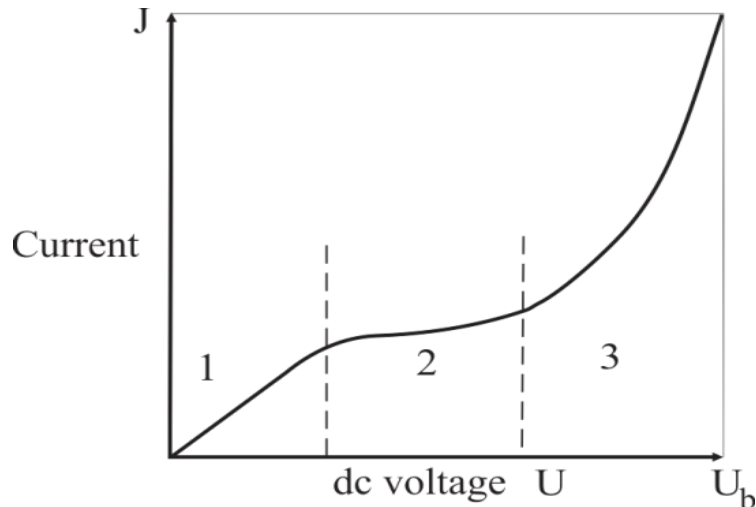

Fig. 8 Typical voltage-current ( $U$ - $J$ ) characteristic in dielectric liquids.
- Fig. 8 shows at low voltages, the current varies proportionally to the voltage (region-1), representing the ohmic behaviour of the material. On raising the applied voltage, hence the field intensity, the ionic conduction current gets saturated, (region-2). At still higher applied voltage the current density increases rapidly until the breakdown occurs, (region-3).
- Van'tHoffs law is valid only in the region where the conduction current follows the ohmic behaviour, that is, region-1 in Fig. 8.